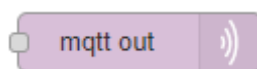
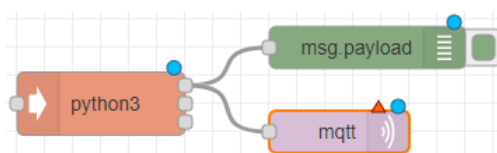

Figure 3.4: MQTT out node.
Figure 3.5: Node-RED setup.
- Drag the **mqtt out** node (see Figure 3.4) to the workspace. Then, connect the **daemon** node to the **MQTT** node as in Figure 3.5.